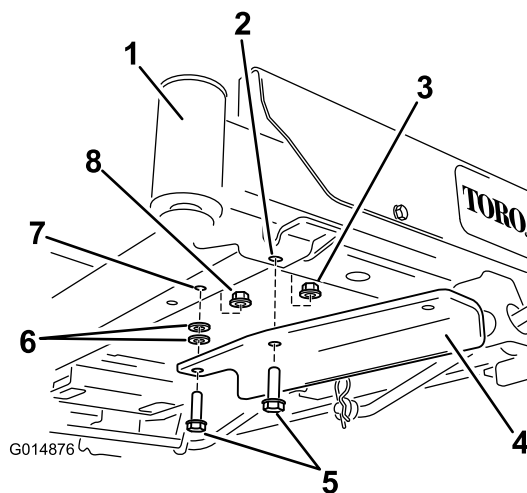

Figure 6
- For machines without a foot assist lift pedal, secure the bracket using 2 bolts (3/8 x 1-1/4 inches), 2 washers and 2 locknuts (3/8 inch) (Figure 6).